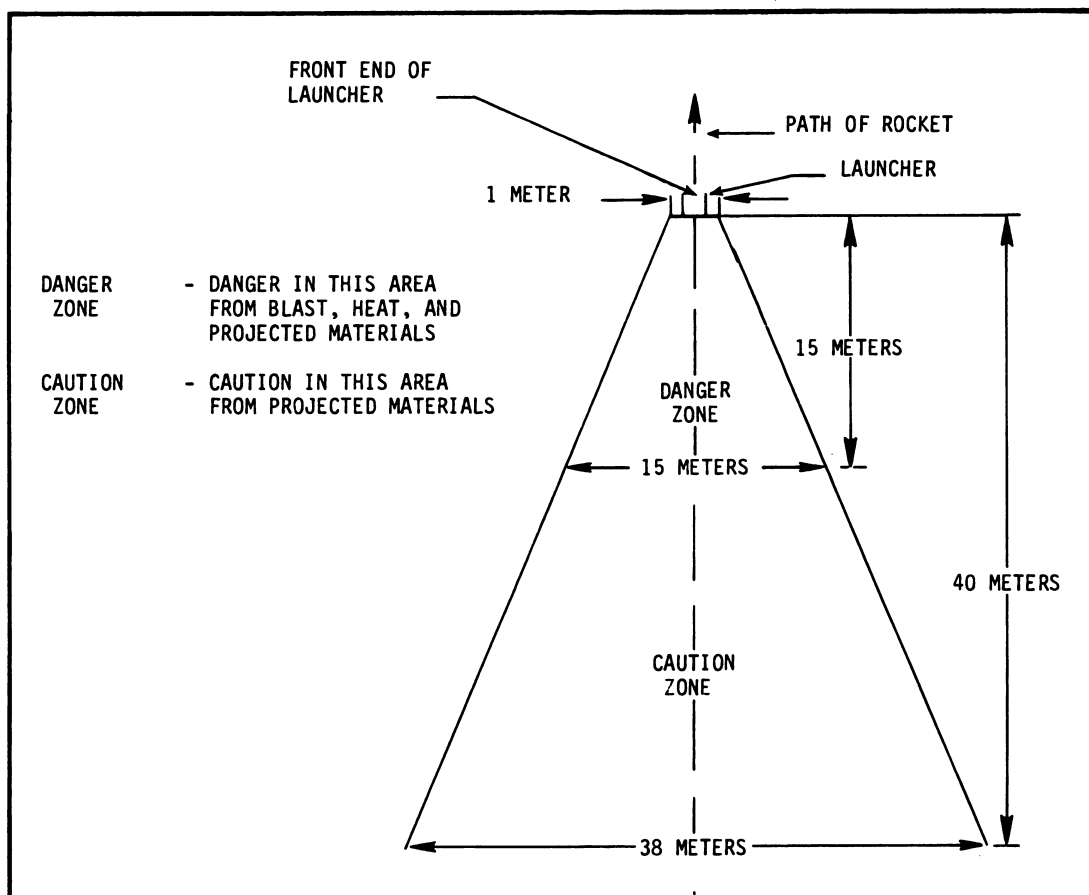

Figure 4
4. Check the backblast area (fig. 4).